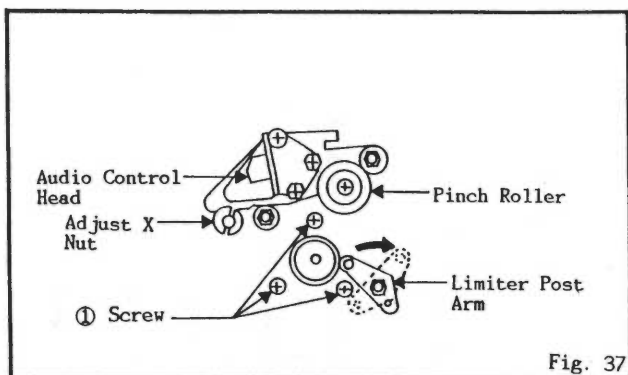

Fig. 37
2. Remove 3 screws ① (SEMS A 2.6x6) fixed to DD unit on front of the Deck. (Fig. 37)
1. Return the Limiter Post to dotted line, then fit new DD unit to the chassis without touching center of the shaft of the DD unit to the chassis. And return the Limiter Post to where it was. (Fig. 37)